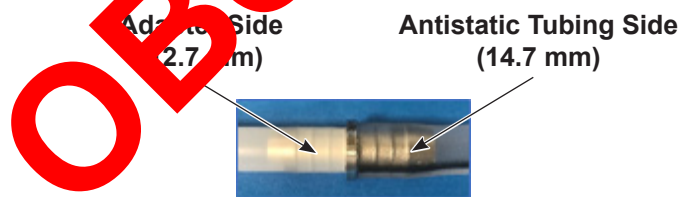

Figure 6 Fitting Adapter Installation
1. See Figure 6. Connect another piece of the antistatic tubing to the 14.7 mm side of the adapter shipped with the drum unloader.